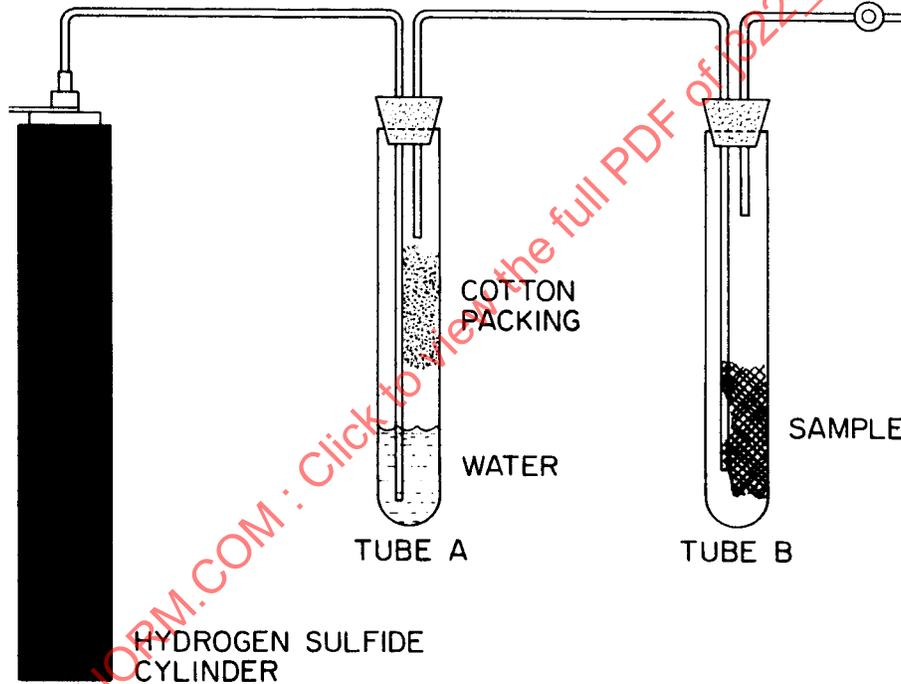

FIGURE 1—STAINING TEST DIAGRAM
3.4 Miscellaneous glass tubing, cotton, plastic tubing, and pinch clamp as in Figure 1.
5.1 Assemble apparatus per Figure 1 and place under fume hood.
5.3 Add approximately 50 mL of tap water to tube A. Insert cotton packing per Figure 1. Stopper tubes A and B.